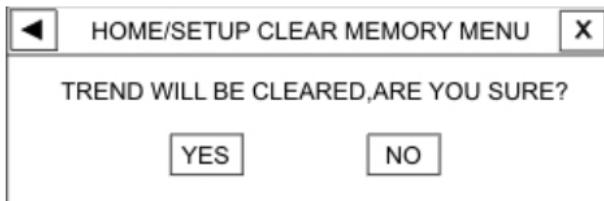

Figure 2-8 SETUP/CLEAR MEMORY MENU
- A message will appear on the screen which asks you whether to clear that item or not (Fig. 2-8)